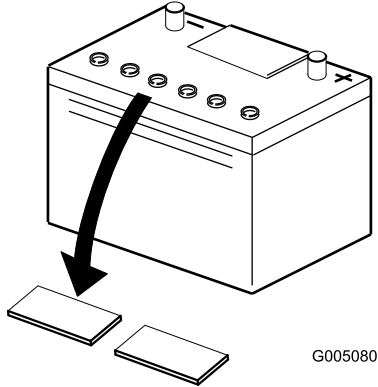

Figure 4
- Clean the top of the battery and remove the vent caps (Figure 4).